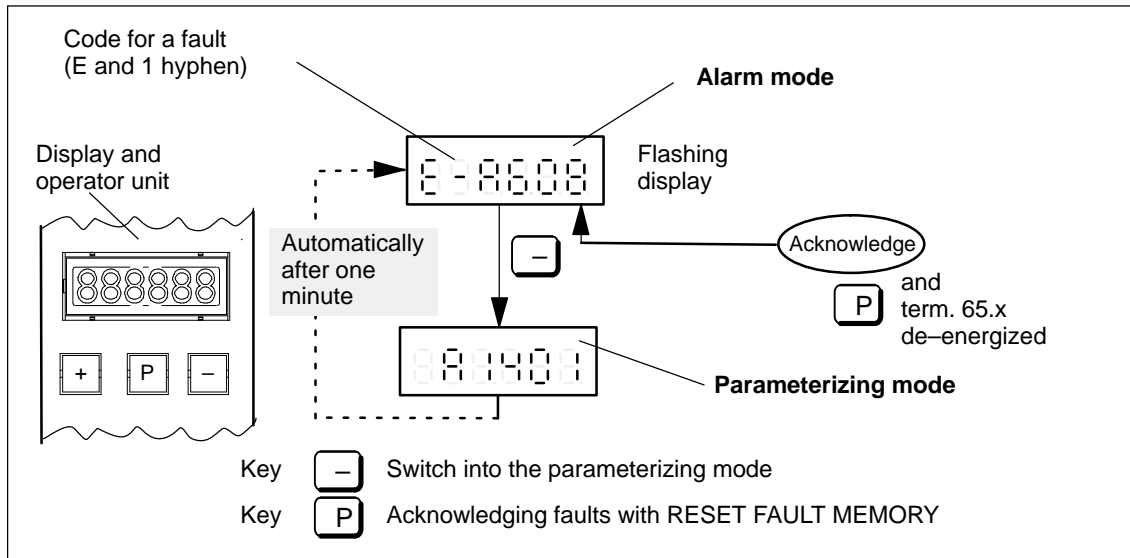

Fig. 7-1 Operator control, if a fault is available
1. This is what it looks like if a fault has occurred (refer to Fig. 7-1).